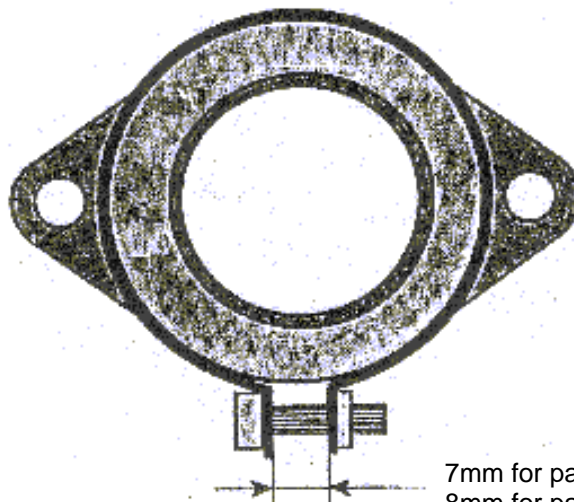

Fig. 1
- Make sure the clamp is positioned with the screw at the bottom. Tighten the clamp only enough to give a gap between the lugs of the carb socket as shown in Fig 1, 7mm for part number 267787 or 8mm for part number 267788 & 267789 (a spacer is provided on 267788 & 267789 to prevent over tightening).